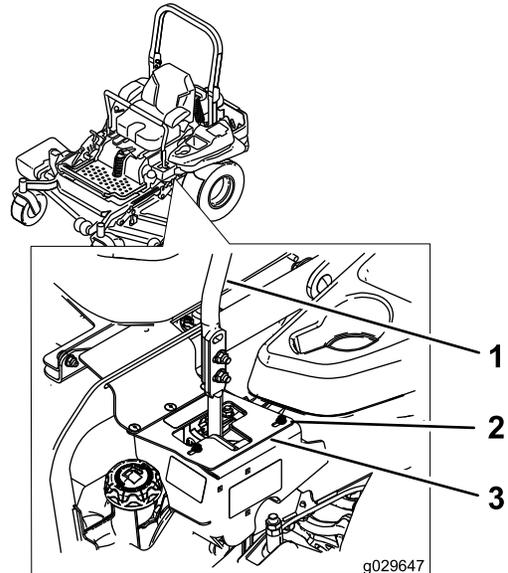

Figure 65
6. If it tracks to the right, loosen the bolts and adjust the left stop plate backward on the left T-slot until the machine tracks straight (Figure 65).
7. If it tracks to the left, loosen the bolts and adjust the right stop plate backward on the right T-slot until the machine tracks straight (Figure 65).
8. Tighten the stop plate (Figure 65).